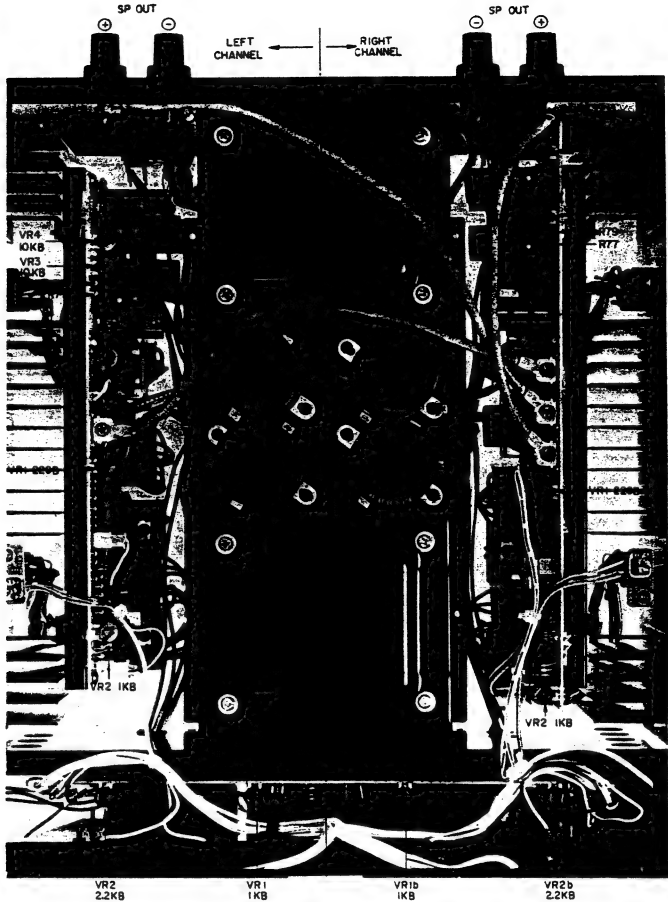

Fig. 23 Adjustment Point
2. MODEL PS-120M (Refer to Figs. 23, 24)
### 3. MODEL PS-200M (Refer to Figs. 23, 24)